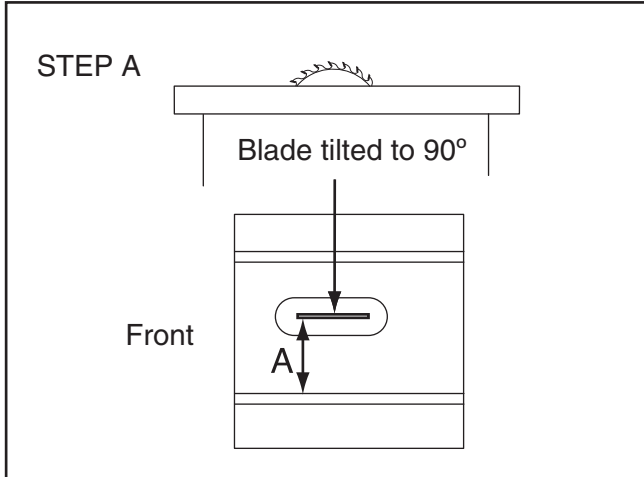

Figure 119. Measuring distance from miter slot to carbide tip of blade.
3. Measure from the miter slot to a carbide tip on the blade, as shown in **Figure 119**.